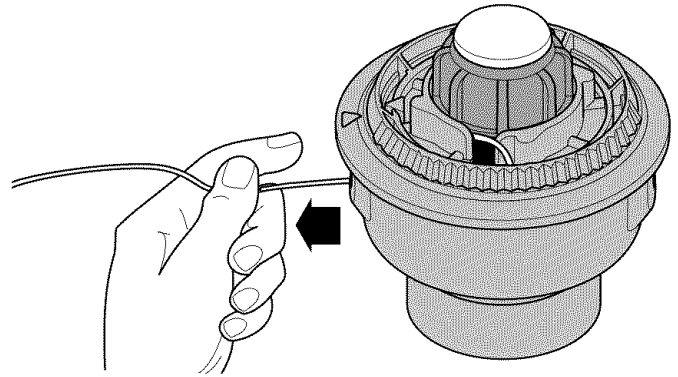

Fig. 17
4. Pull the line away from the head until the line is tight against the reel (Fig. 17).